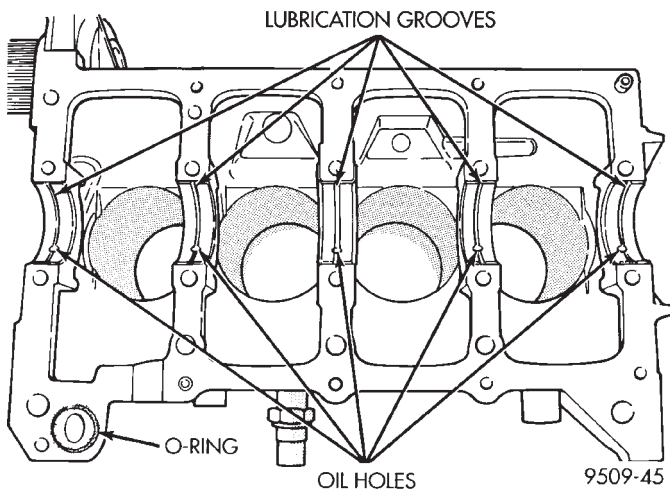

Fig. 80 Installing Main Bearing Upper Shell
(1) Install the main bearing shells with the lubrication groove in the cylinder block. Install O-ring into recess in the block (Fig. 80).